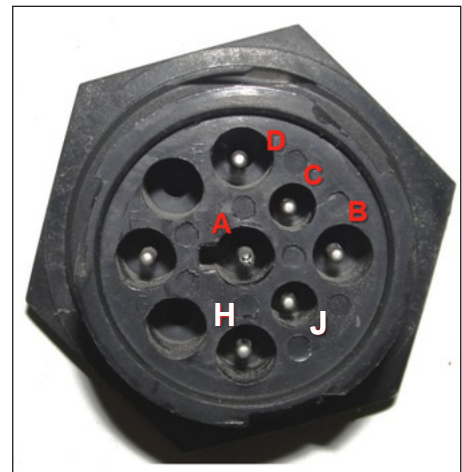

Figure 7 — CAN 2
13. Check the resistance at the service port on the AXIS hub CAN 2, which is pin H (CAN high) and pin J (CAN low). Refer to Figure 7 for pin locations.